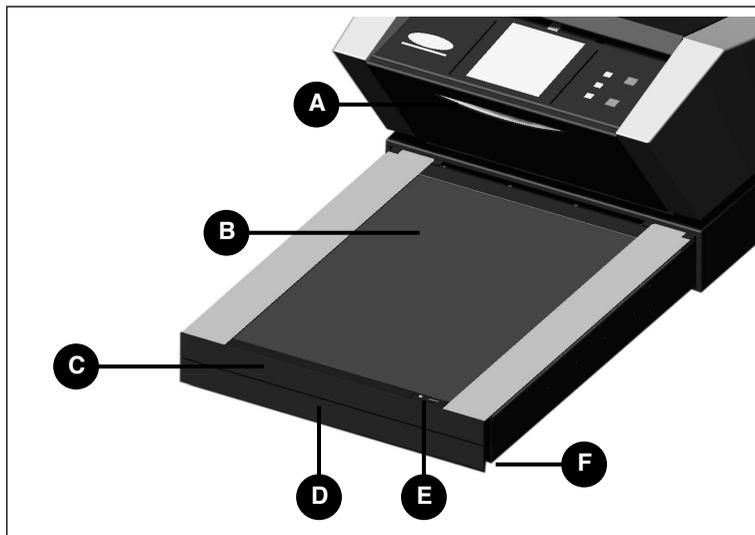

Figure 2: Flatbed drawer features
1. Pull out the flatbed support as far as it will go by pulling on the drawer support handle shown in Figure 2.
3. Swing down the electrostatic plate door (shown in Figure 2) by placing your index fingers into the left- and right-side gaps behind the door and pulling forward.
2. Open the electrostatic plate door (shown in Figure 2) by placing your index fingers into the gap behind the door and pulling forward.
5. Press the electrostatic field button (shown in Figure 2). Your originals will be “sucked” into place.
4. Lift the top glass plate by inserting your index fingers into the gaps behind the electrostatic plate door (shown in Figure 2) and lifting. Lift the top glass plate all the way up until it stops. It will remain held open.